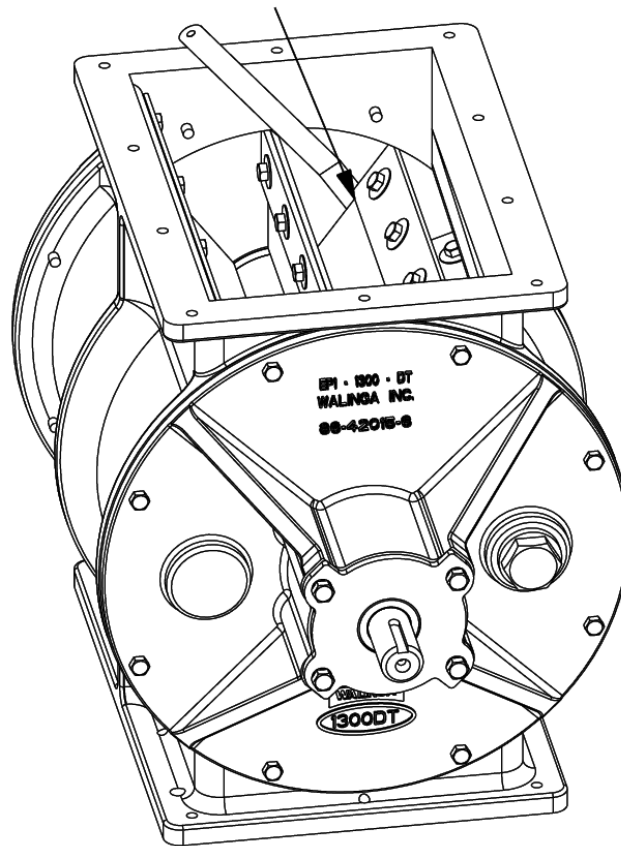

Figure 7-20: Rotor clearance
4. Use a feeler gauge to check the clearance between the rotor and both end plates, as shown in **Figure 7-20**. Reference **Table 7-3** for clearance requirements. Rotate the rotor by hand to check the clearance of each rotor blade.